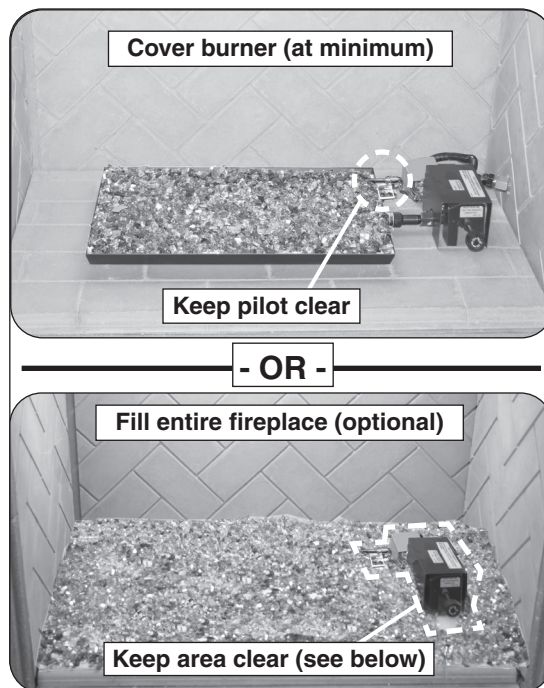
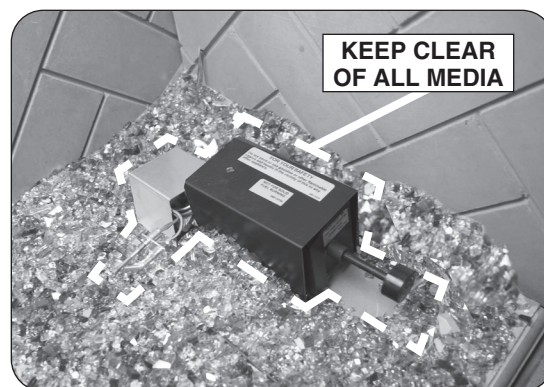

Fig. 20-1 Glass media placement
Fig. 20-3 Keep pilot, valve, & shield(s) clear
1. After the required sand/vermiculite has been placed, pour the glass media (glass, gems) so that the burner pan is filled completely and evenly (see Fig. 20-1).
- DO NOT place any glass media directly on the pilot assembly, on or within the heatshield(s), or under a knob if one exists at the front of the valve (see Fig. 20-1 and Fig. 20-3).
2. Complete placement by pouring the remaining glass media on the floor of the fireplace, around the front, rear, and sides of the burner system (see Fig. 20-1).
KEEP SAND/VERMICULITE, GLASS/GEMS, AND ALL FOREIGN OBJECTS AWAY FROM THE PILOT ASSEMBLY, VALVE ASSEMBLY, AND HEAT SHIELD(S) DURING MEDIA PLACEMENT AND AT ALL TIMES. SEE FIG. 20-3.